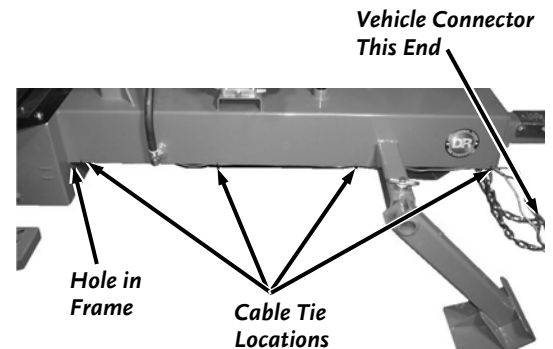

Figure 43
3. Place the Vehicle Connector end of the Wire Harness near the Tow Hitch. Push the Tail Light Connectors and Ground Wires through the hole in the Frame (**Figure 43**).
8. Let the Vehicle Connector extend about two feet past the Hitch and attach the Harness to the Backhoe with four Cable Ties at the locations shown (**Figure 43**).